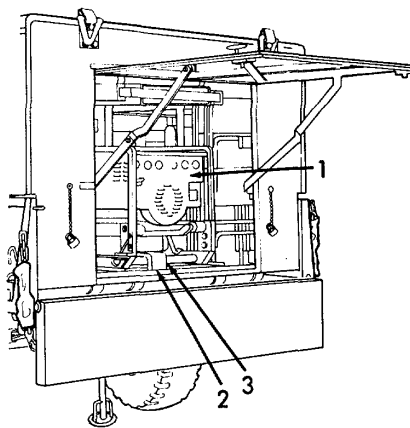

Figure 2-69. Generator Set, Installation.
*i. Loading the Generator Set (Refer to Figure 2-69).***WARNING**